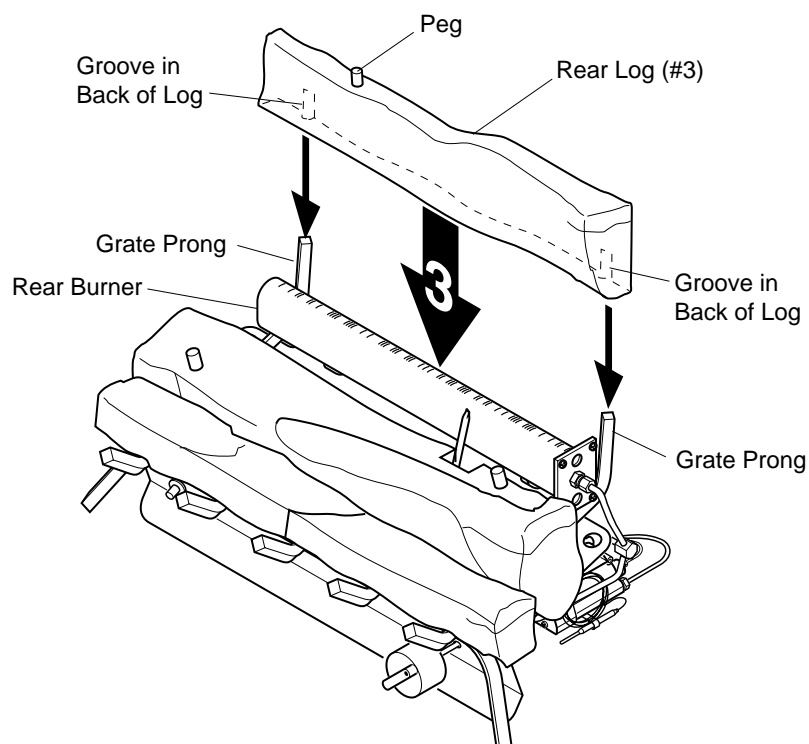

Figure 18 - Installing Rear Log (#3)
- Slide the grooves in the back of the rear log (#3) against the rear grate prongs. Make sure the peg on the log is on top (see Figure 18).